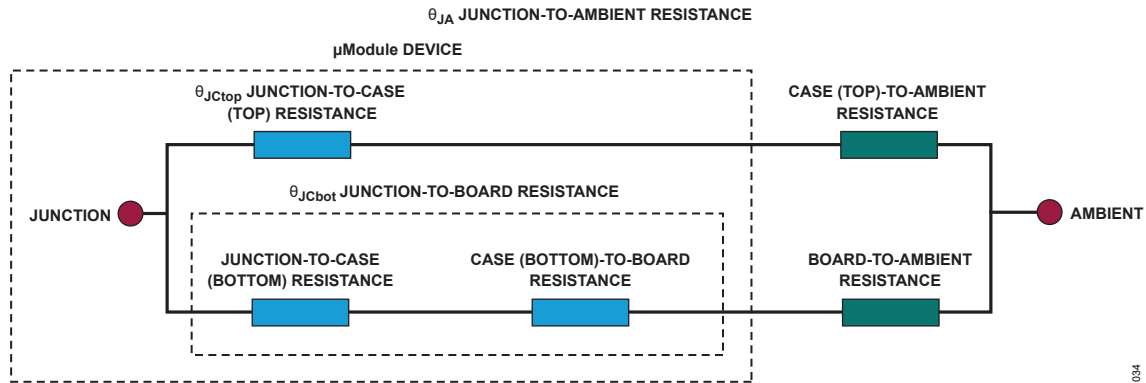

Figure 34. Graphical Representation of Thermal Coefficients, Including JESD51-12 Terms
2.  $\theta_{JCb\text{ot}}$  – Thermal resistance from the junction through the bottom of the package case to the board, see Figure 34.
A graphical representation of these thermal resistances is shown in Figure 34. Some thermal resistance elements, such as the heat flowing out the side of the package, are not defined by the JEDEC standard and are not shown. The blue resistances are contained within the  $\mu$ Module regulator, and the green is outside.